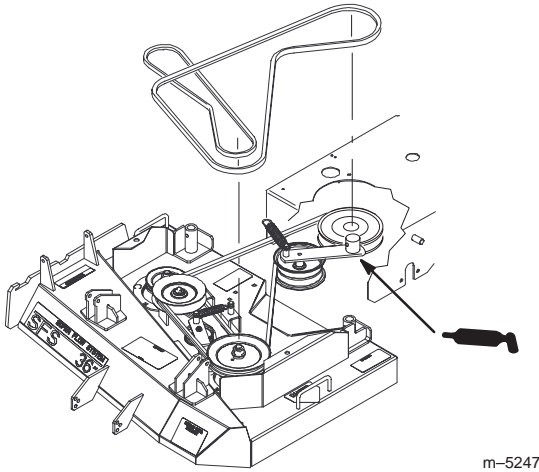

Figure 32
1. Grease the fitting on the PTO belt idler arm pivot (Fig. 32).